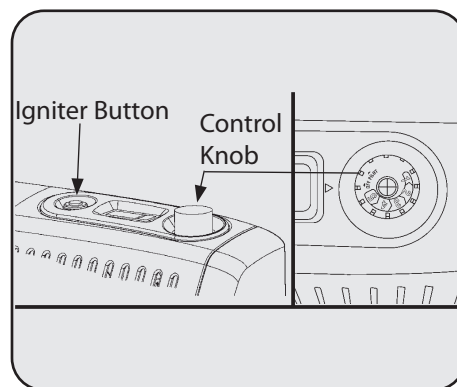

Figure 16
3. Push in gas control knob and slightly turn clockwise ↻ to the OFF position. See Figure 16.